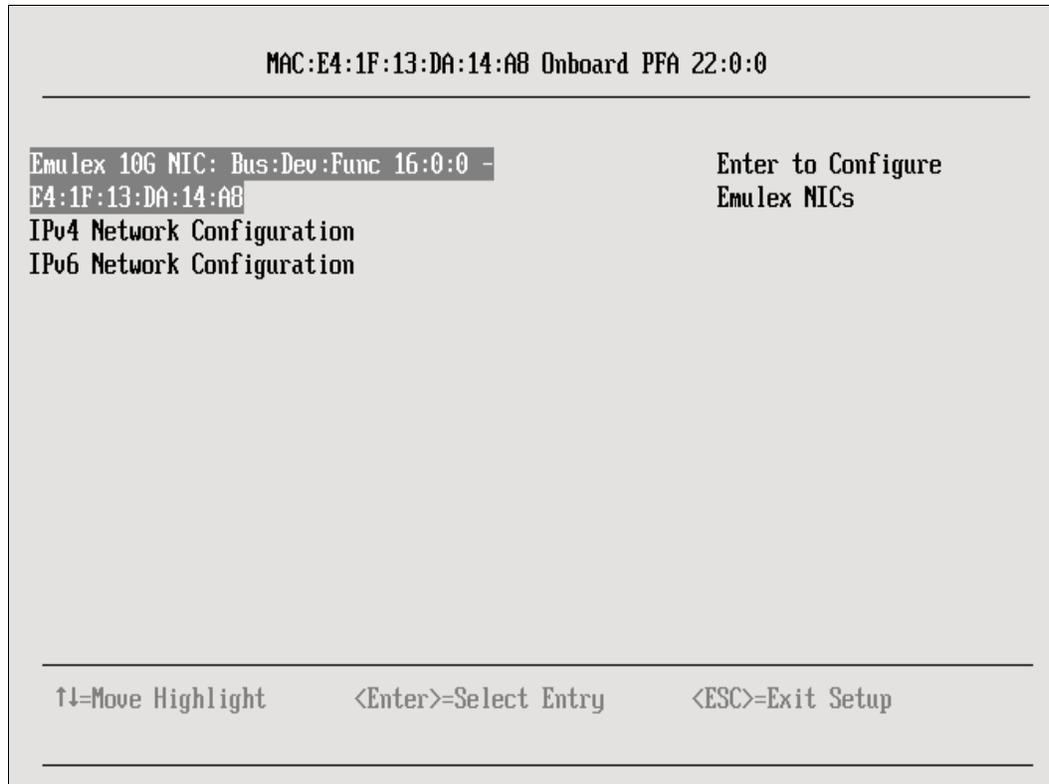

Figure 3-31 Ethernet adapter configuration
- ▶ The Network Device List is followed by the list of each Ethernet adapter and is represented by the MAC address. Each device can be highlighted and accepted to then configure the network parameters for the individual adapter. Figure 3-31 on page 110 shows the Ethernet adapter configuration.